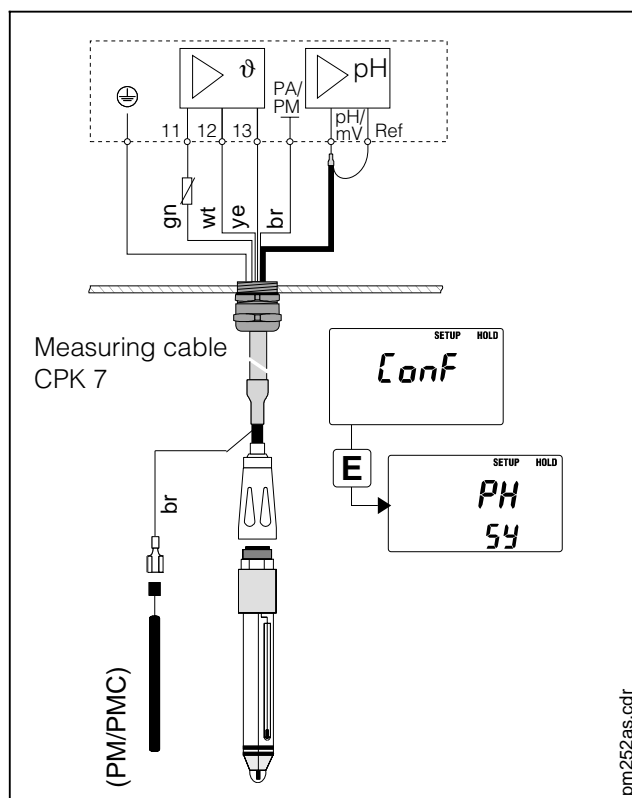

Fig. 4.8 Symmetrical high-impedance pH electrode connection
- Potential matching connector present – symmetrical connection (see figure 4.8).